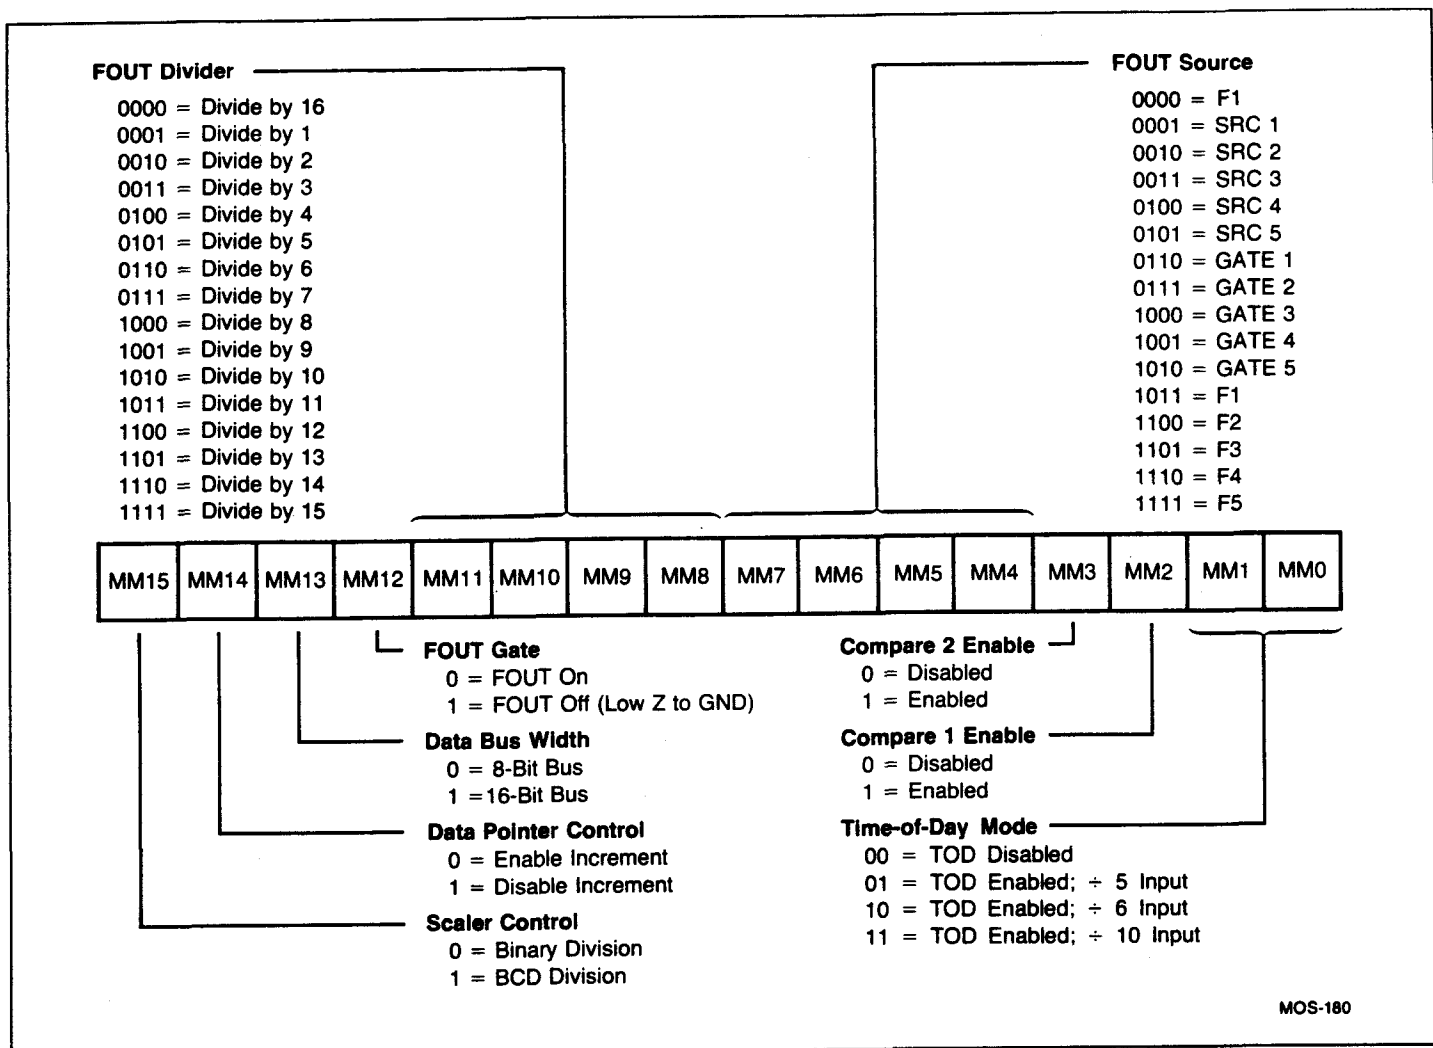

Figure 1-13. Master Mode Register Bit Assignments
The 16-bit Master Mode (MM) register is used to control those internal activities that are not controlled by the individual Counter Mode registers. This includes frequency control, Time-of-Day operation, comparator controls, data bus width and data pointer sequencing. Figure 1-13 shows the bit assignments for the Master Mode register. This section describes the use of each control field.